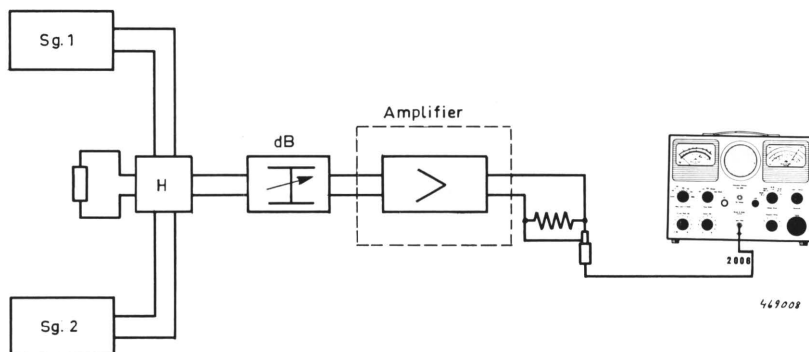

Fig. 4.3. Set-up for measuring intermodulation in antenna amplifier.
Re 3. The intermodulation of the Amplifier in an Antenna distribution system can be measured with a set-up as shown in Fig. 4.3. Input and output must be loaded as prescribed by the supplier of the amplifier. The level of the input signal should not exceed that which corresponds to maximum intermodulation-free output voltage. Using the probe the output voltage from the amplifier is measured with the Heterodyne Voltmeter Type 2006 across a load corresponding to the input impedance of the transmission lines. Maximum output voltage is the maximum voltage that the amplifier can deliver when the intermodulation between two signals of different frequencies inside the pass band should not exceed 1 percent. The measurement is carried out at frequencies where overloading is most probable. Attention should also be paid to the distortion in the 2006 (see specification) which under extreme conditions could influence measurements. An input voltage as low as possible will reduce the distortion caused by inter- and cross modulation in the input of the 2006.
In Fig. 4.3 the two signal generators Sg 1 and Sg 2 have their outputs connected in parallel via a hybrid transformer (H) and an attenuating network (dB) to the antenna amplifier. The Heterodyne Voltmeter is connected to the output of the amplifier as described above.